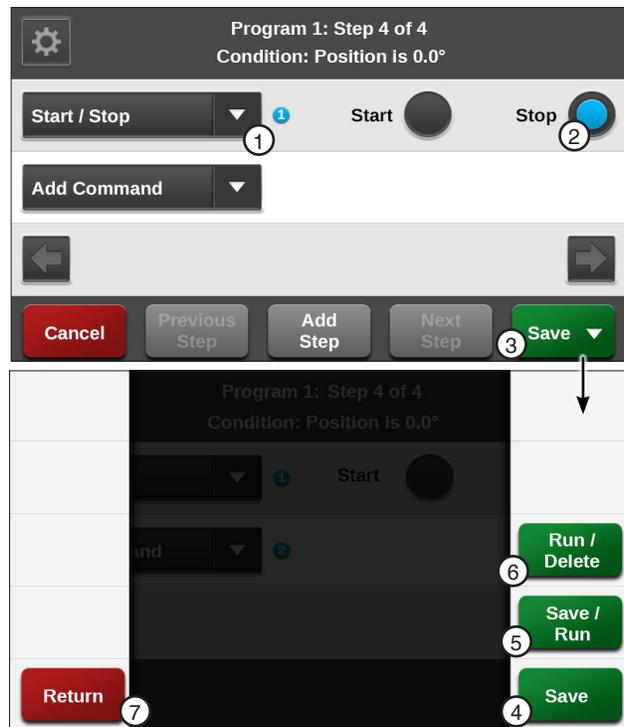

Figure 110-2 1. Start/Stop Command 2. Stop 3. Save 4. Save 5. Save/Run 6. Run/Delete 7. Return
12. Enter the command to be executed at this position. Refer to Figure 110-2.
13. Finish the program by selecting one of the following. Refer to Figure 110-2.